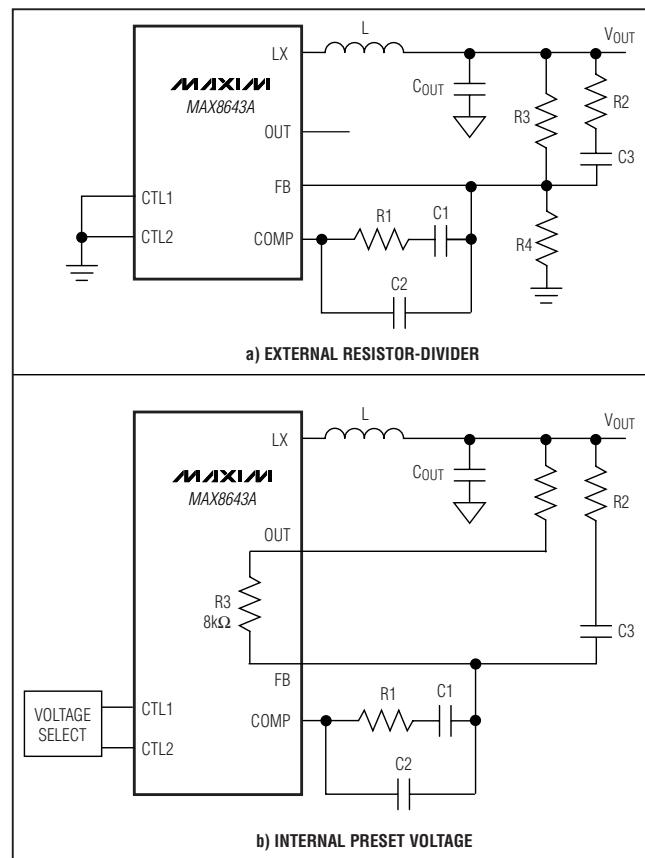
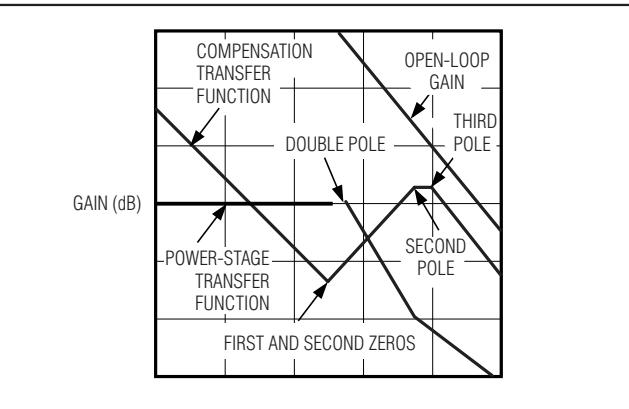

Figure 3. Type III Compensation Network
Figure 4. Type III Compensation Illustration
The high switching frequency range of the MAX8643A allows the use of ceramic output capacitors. Since the ESR of ceramic capacitors is typically very low, the frequency of the associated transfer function zero is higher than the unity-gain crossover frequency, f_C , and the zero cannot be used to compensate for the double pole created by the output filtering inductor and capacitor. The double pole produces a gain drop of 40dB/decade and a phase shift of 180°/decade. The error amplifier must compensate for this gain drop and phase shift to achieve a stable high-bandwidth closed-loop system. Therefore, use type III compensation as shown in Figure 3 and Figure 4. Type III compensation possesses three poles and two zeros with the first pole, f_{P1_EA} , located at zero frequency (DC). Locations of other poles and zeros of the type III compensation are given by: